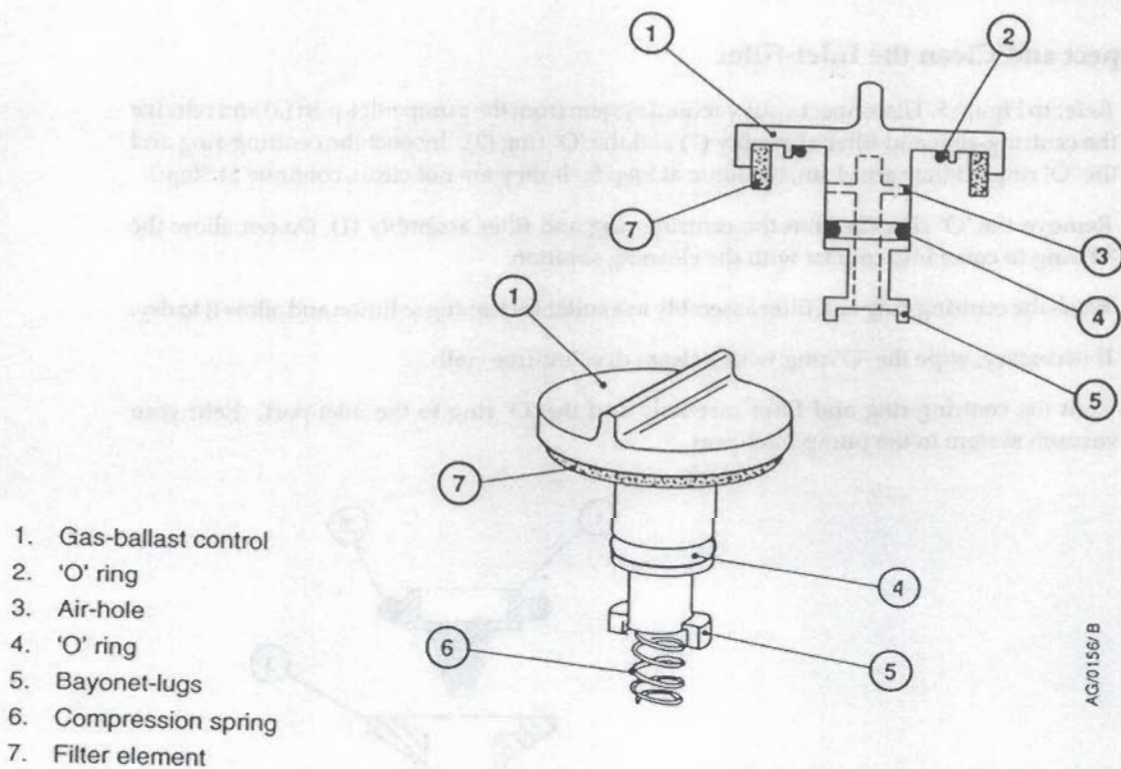

Figure 6 - Gas-ballast Control Assembly
Note: The gas-ballast filter element (Figure 6, item 7) is retained in its seating with adhesive; do not try to remove it.
1. Refer to Figure 6. Turn the gas-ballast control (1) to the high flow position (position 'II').
2. Push the control down against the compression spring (6) as far as it will go, then turn the control anticlockwise slightly to release the bayonet-lugs (5) and remove the control.
3. If necessary, wipe the control with a clean, dry, lint-free cloth and check that the air-hole (3) is not blocked.